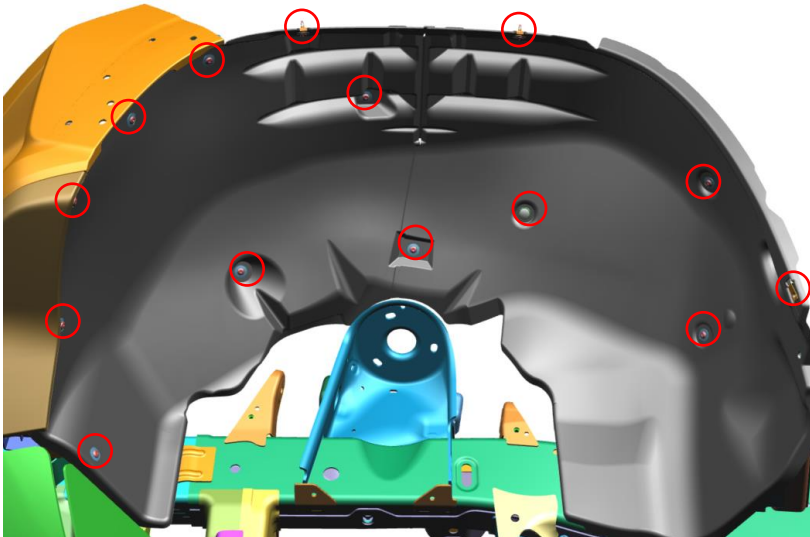

Figure 2 - Driver Side of Vehicle
- a. Remove [14] M4 bolts (T15 & M7 Socket) per side from wheel liner and SAVE. – Fig. 2